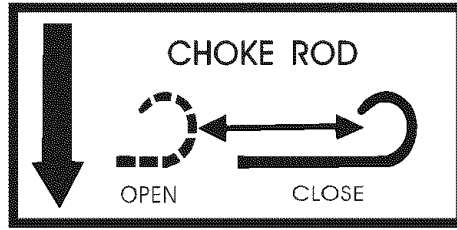

Figure 8- Choke positions
5. Move the choke rod to the “closed” position (see figure 8).
8. If engine fails to start, wait 10 seconds, then repeat step 6. NOTE: After repeated attempts to start the engine, please consult the troubleshooting guide before attempting again. If problems persist please call **(800) 232-1195 M-F 8-5 CT**.
5. Move the choke rod to the “closed” position (see figure 8)